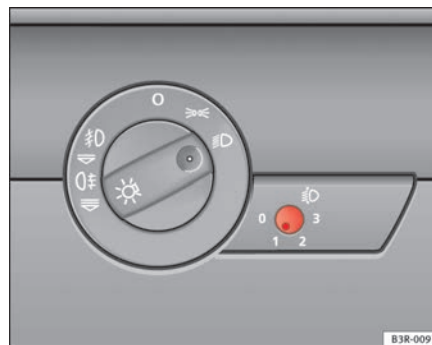

Fig. 87 Headlight range control
- Briefly press the knob  ⇒ page 116, fig. 87 to release it from its set position.